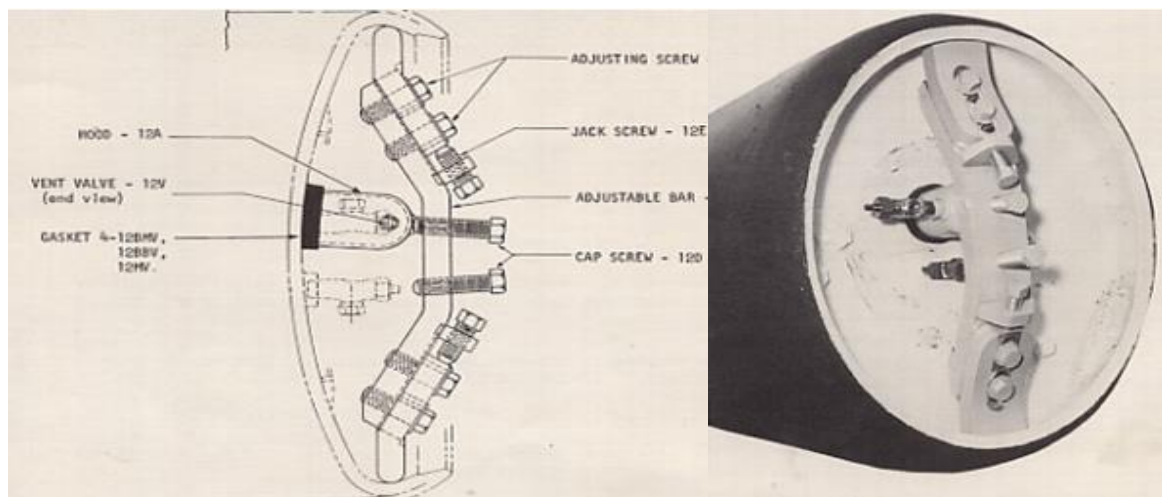

Figure 25: Using Method for Kit No. (12)
Kit No. (12): It is designed to contain leakage from or around the valve, as shown in Figure 25.